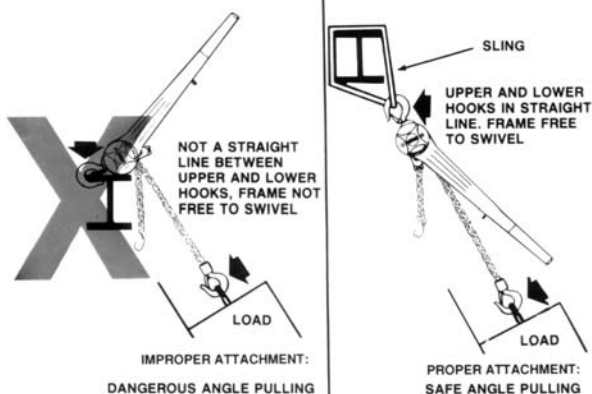

Figure 4. Angle Pulling
TO AVOID INJURY: RIG THE UNIT IN A STRAIGHT LINE HOOK TO HOOK MANNER AND KEEP FRAME FREE TO SWIVEL - SEE FIGURE 4.
RIG THE UNIT IN A STRAIGHT LINE HOOK TO HOOK MANNER AND KEEP FRAME FREE TO SWIVEL - SEE FIGURE 4.
Attaching Load - As discussed in installation section, attach load so that upper and lower hooks are in a straight line with the frame free to swivel on upper hook. If proposed use prevents straight line attachment, use an Anchor Sling (see page 2) or chain sling to obtain a straight line pull. Refer to Figure 4.
13. Do not operate the hoist unless it is rigged to pull in a straight line from hook to hook, **and** the frame is free to swivel on the upper hook. Refer to Figure 4.